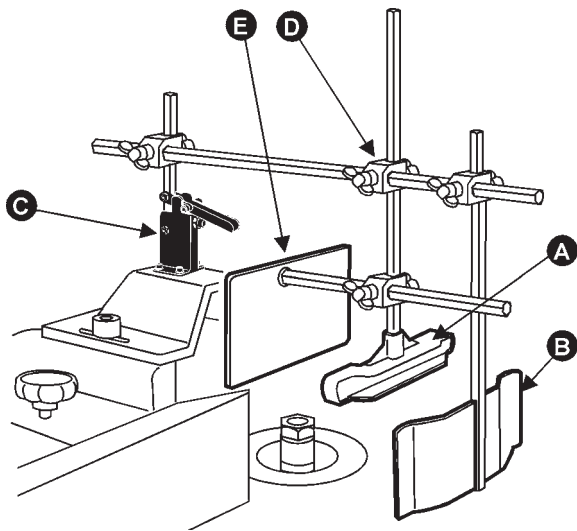

FIGURE 17
Two hold-downs and one safety shield are included with the shaper. One hold-down (A) presses stock down upon the table, the other (B) keeps it pressed against the fence. These can be mounted to the hold-down base (C), Figure 17, by the use of wing-nut blocks (D). The safety shield (E) can be mounted to either of the hold-down pieces as shown.